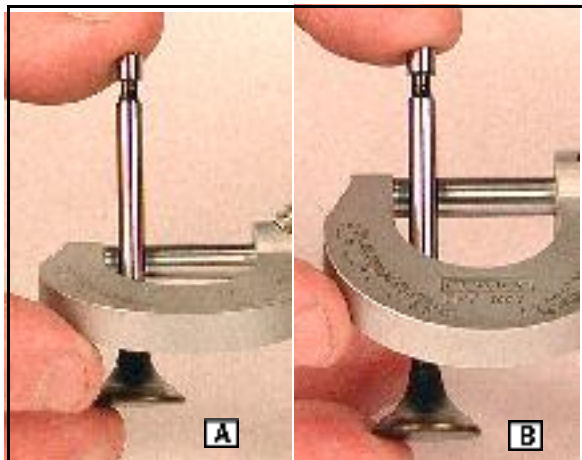

Fig. 14
1. Measure the valve stem at the locations illustrated in ([A & B] Fig. 14).